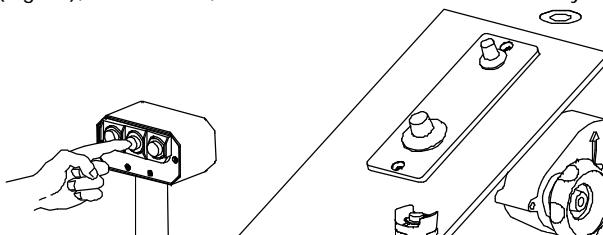

Fig. 13
- d) The pushbutton No.2 (Fig. 13), in the centre, is used to cut semi-hard materials by means of tools with a medium linear development.